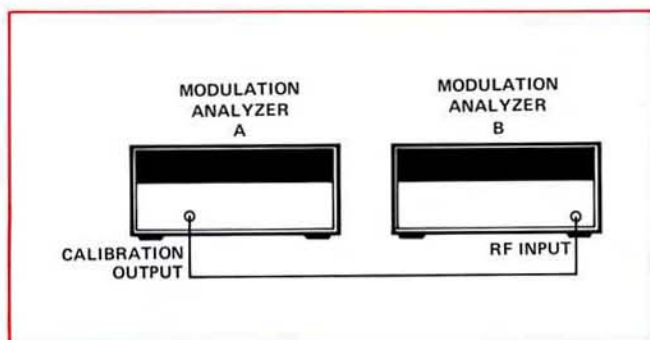

Figure 5-7. Verifying the accuracy of a second 8901A.
1. Connect the CALIBRATION OUTPUT of Modulation Analyzer A to the RF input of Modulation Analyzer B (Figure 5-7).